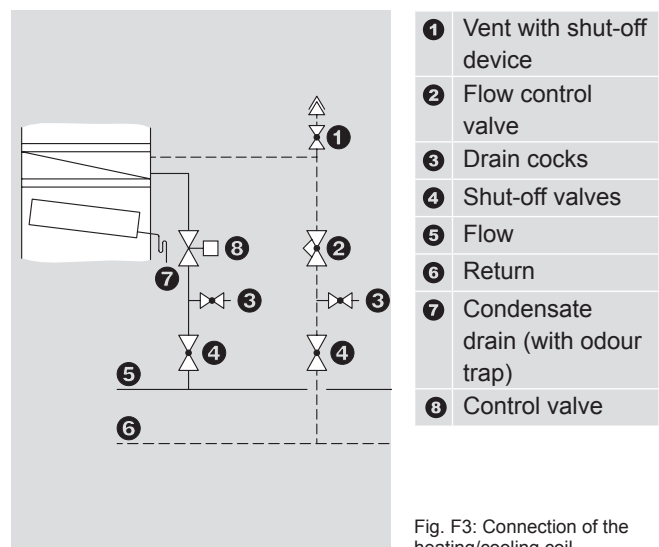

Fig. F3: Connection of the heating/cooling coil
- Connect the heating/cooling coils in accordance with Fig. F3. Depending on local circumstances it has to be checked whether compensators for the supply and return lines for compensation of the linear expansion and/or articulated connections are required for the units.